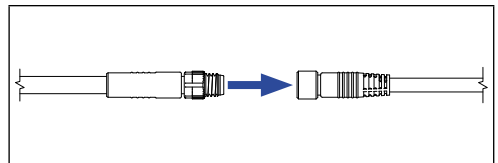

Fig. 10: Connecting the male connector to the female connector of the existing power supply
For R-Series V with EtherCAT®, EtherNet/IP™, POWERLINK or PROFINET the TempoLink® smart assistant can be inserted in an existing power supply. Connect the sensor male connector ② to the female connector of your existing power supply that was removed from the sensor (Fig. 10).